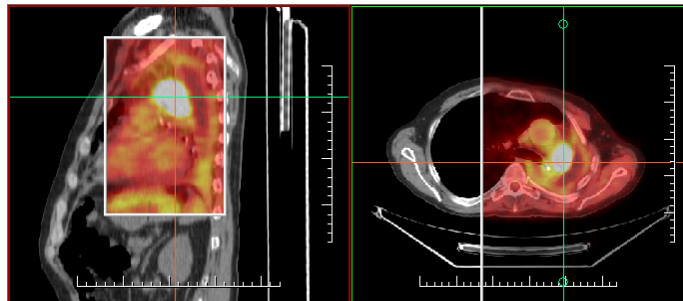

Figure 263 – Fusion images between MR and PET series
- **Vertical** - the view is divided with a vertical line; the image from the fusion series is displayed on the right (see Figure 263, right).
- **Rectangle** - the image from the overlaying series is displayed inside the rectangle (see Figure 263, left).